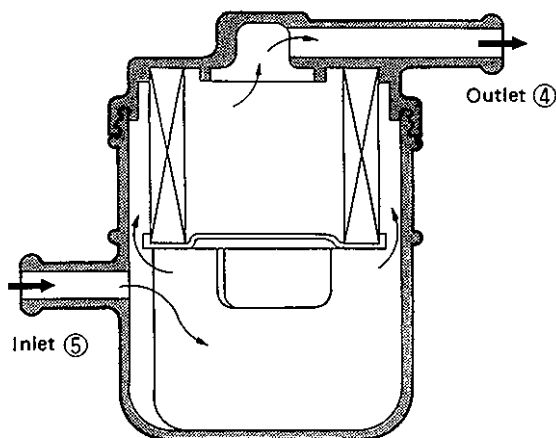

Fig. 5-14
Fig. 5-14, above, shows the fuel filter in its correct posture, with outlet ④ coming on top side and inlet ⑤ on bottom side. Remember the relative positions of inlet and outlet when piping the filter.